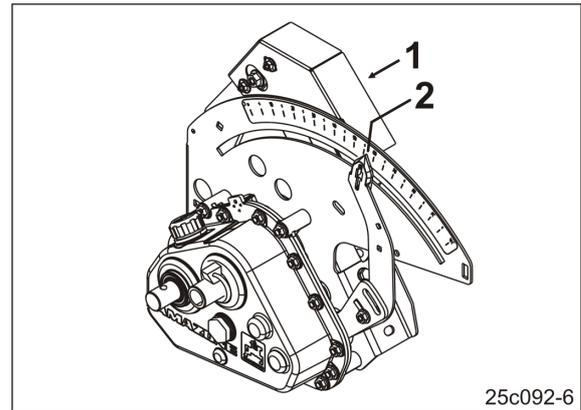

Fig. 31
- Seed drill with electric cylinder (Fig. 31/1).
- Enter the scale value of the pointer (e.g. 50, refer to the seed drill operating manual) for the first calibration test (Fig. 31/2).
- The pointer (Fig. 31/2) moves to the scale value entered (e.g. 50).
- The AmaDrill+ calculates the required gearbox setting based on the data from the calibration test. The pointer (Fig. 31/2) moves to the calculated scale value.